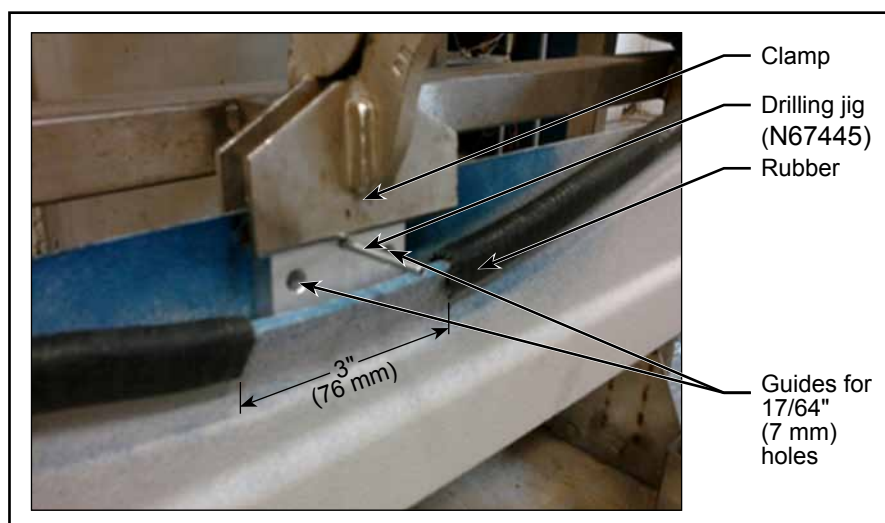

Figure 6 - Drilling Jig
- 1.14. Place the drilling jig (N67445) using the hole drilled at step 1.13. Horizontally level the jig and secure it in place with a clamp. See Figure 6.
- 1.15. Using the drilling jig as a guide, drill two 17/64" (7 mm) dia holes. See Figure 6.
- 1.16. Remove 3" (76 mm) of rubber below the drilling jig. See Figure 6.